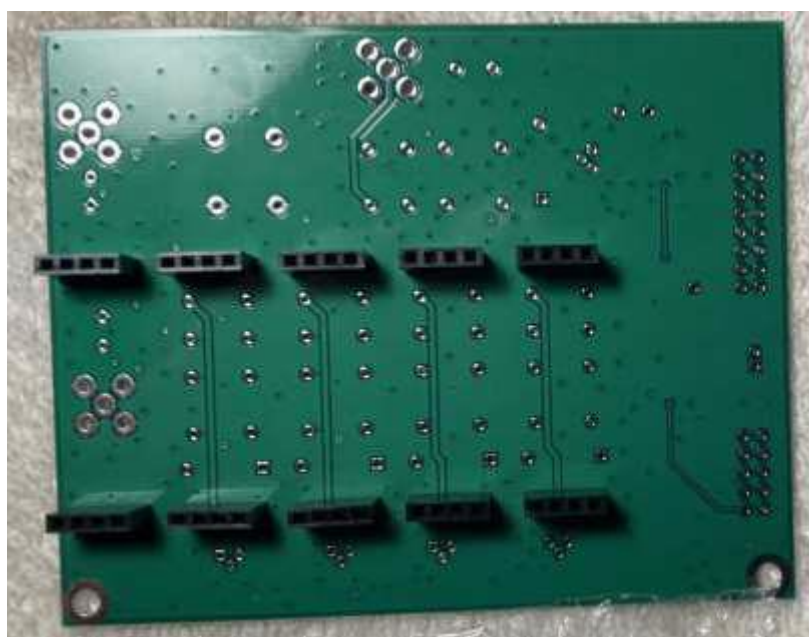

Figure 7-6. 4-pin headers soldered to the main filter board.
□ Snap off 10, four-pin segments from the male header strip. Insert these into the female headers seen in Figure 7-6..
オス ヘッダー ストリップから 4 ピン セグメントを 10 個折り取ります。これらを図 7-6 に示すメス ヘッダーに挿入します。
□ Some builders may wish to experiment with the filters. When we started building the filters, we were pretty certain that the toroid board would change during development. For that reason, we elected to use 4-pin headers (not supplied with the kit) on the main filter board and solder the 4 pin segments to the toroid board. This would allow us to easily separate the toroid board from the main filter board. Figure 7-6 shows the 4-pin headers soldered to the backside of the main filter board.
に分離できます。図 7-6 は、メイン フィルター ボードの裏側に半田付けされた 4 ピン ヘッダーを示しています。